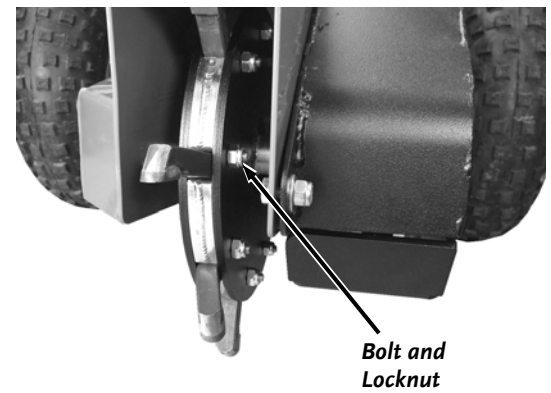

Figure 22
2. Remove the nine Bolts and Locknuts from the Cutter Head with two 7/16" Wrenches (**Figure 22**).